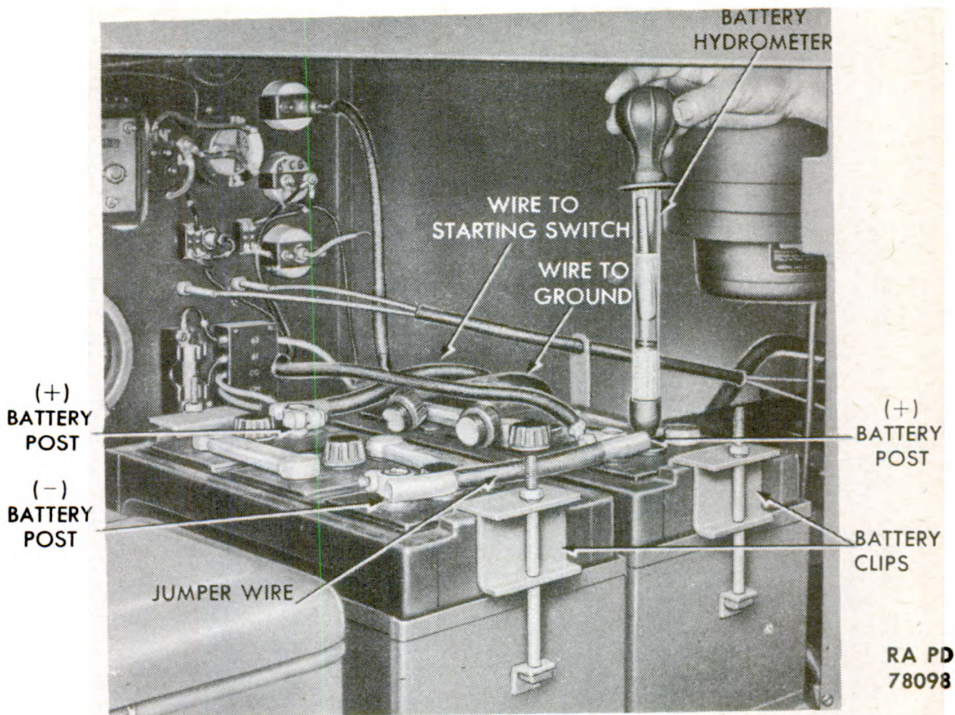

Figure 48 – Checking Battery Charge with Hydrometer
74. BATTERIES (fig. 48).
b. Maintenance (fig. 48).
(1) The batteries should always be kept filled with distilled water if available; otherwise, with rain water collected in a nonmetallic container, to a point approximately $\frac{3}{8}$ inch above the separators. If the unit is used regularly, the batteries should stay in proper charged condition. An idle battery loses its charge. If hydrometer test shows batteries are discharged, they should be charged by a standard auxiliary battery charger. If this is impossible, they can be charged by the battery-charging generator on the unit. The engine must be